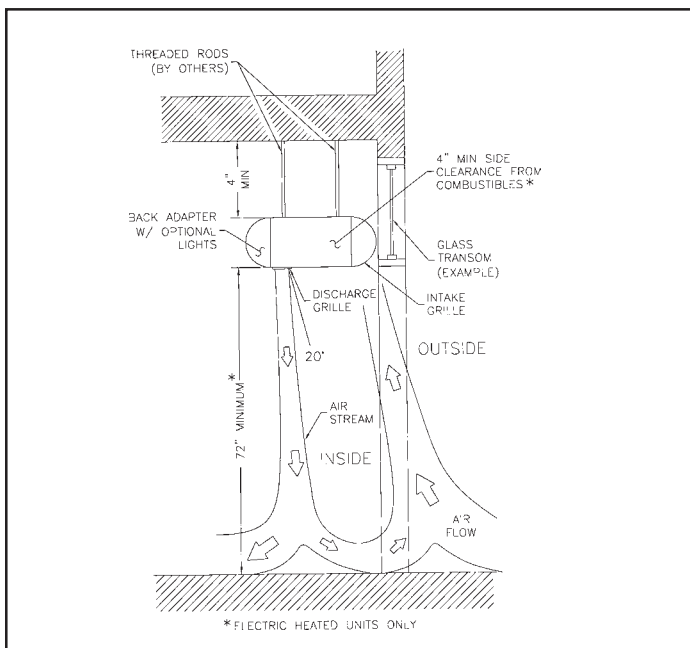

FIGURE 4 - Suspension With Back Adapter Reverse Flow
3. **Figure 4** installation (louvered discharge grille facing interior of the building). A maximum of 6" between the wall and intake grille is required. Install the back adapter at this time. Follow instructions 2 under Item A.